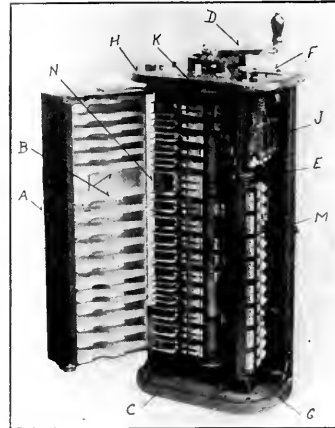

FIG. 1.—LATEST TYPE OF K. CON. TROLLER.
are the same, and so we will describe one of the latest design shown by Fig. 1 known as the K 35 controller. This view shows the inside of the controller, with the complete arc deflector (A) opened and swung back. In normal position for operation of the controller this arc deflector is closed, so that each division plate or arc shield (B) will occupy the space between the contact fingers (C). The whole front of the controller box is then covered over by a wooden cover lined with asbestos. In this, the latest type of K controllers, the operating handle (D) is connected directly to the shaft, to which is fastened the main cylinder (E), dispensing with gears as on some of the older styles, so that the controller operates easily. The reverser handle (F) which operates the reverser drum (G) is interlocked with the power operating handle (D), so that the latter can not be moved unless the reverse handle is fully set in either forward or reverse position; also in case the power handle is not in the "off" position the reverse handle can not be moved. Directly below the controller cap (H) is the
Referring to Fig. 1, when the arc deflector (A) is closed into place there is an arc shield on top and bottom of each finger or group of fingers. For each finger or group there is a blowout coil (N). These blowout coils are simply turns of wire, through which flows the motor current, wound around steel cores, which are fastened to the finger basis. Steel plates are embedded in each arc shield (B), which distributes the magnetic flux through the arc shields (the space between the arc shields) parallel to the shaft and at right angles to the arcs formed. The scheme used in the older types of K controllers is one long blowout coil for all the fingers, which means a much weaker field for disrupting the arc with not nearly as good operation.